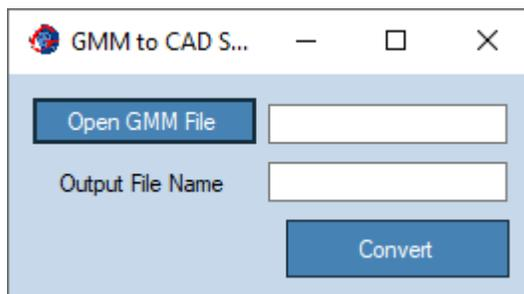

Figure 14: *Geo Meshing v3.2* to CAD script surface dialog window.
- **GM to CAD Script:** Opens a dialog window (shown in Figure 14) for converting *Geo Meshing v3.2* meshes to a CAD script surface. The script can be drag/dropped into CAD software and it will create a 3Dface surface.